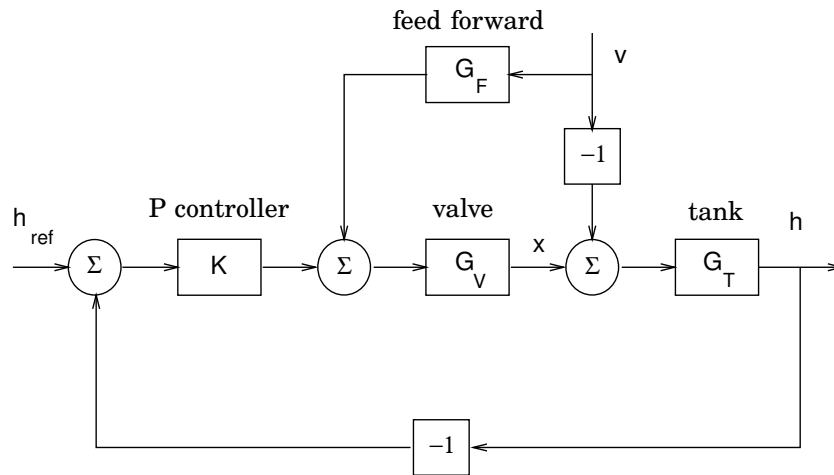

Figure 10.3 Block diagram of the level controlling system in Problem 10.4 (Extra).
10.4 (Extra) A block diagram for the system is shown in figure 10.3. Mass balance for the tank yields